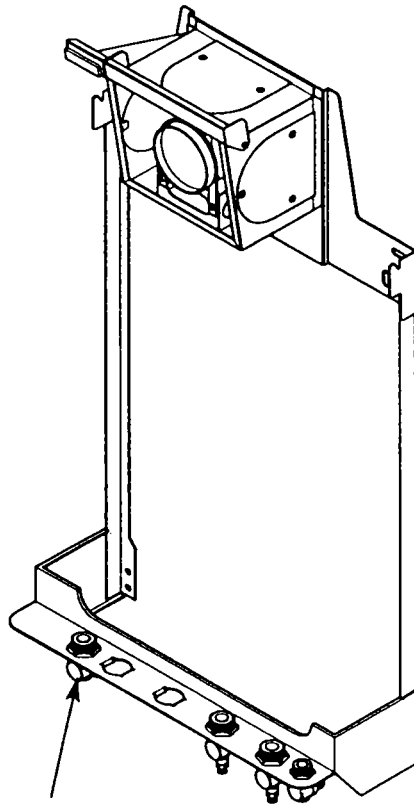

Fig. 12
2. The connection of the appliance is a 22mm copper tail on the tap rail (Fig. 12).